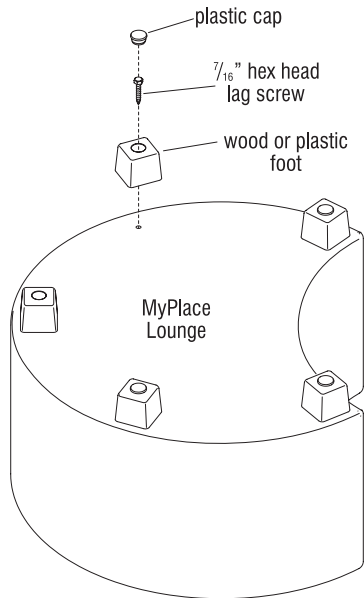

Figure 1
2. Using a flat blade screwdriver, pry off the black plastic cap covering the hex lag screw access hole (Figure 1).
3. Remove the hex head lag screw inside the hole using a $\frac{7}{16}$ " hex socket wrench (Figure 1).
4. Attach the new foot to the same location as the old one using the $\frac{7}{16}$ " lag screw. Once installed, press the plastic cap into the access hole (Figure 1).